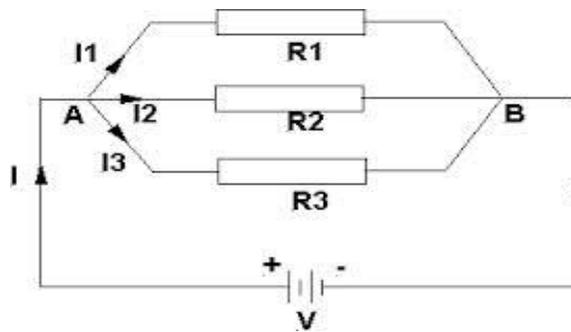

Figure 6
1. Connect the circuit as shown in Figure 6. Make sure to record the values of R_1 , R_2 , and R_3 in your data sheet